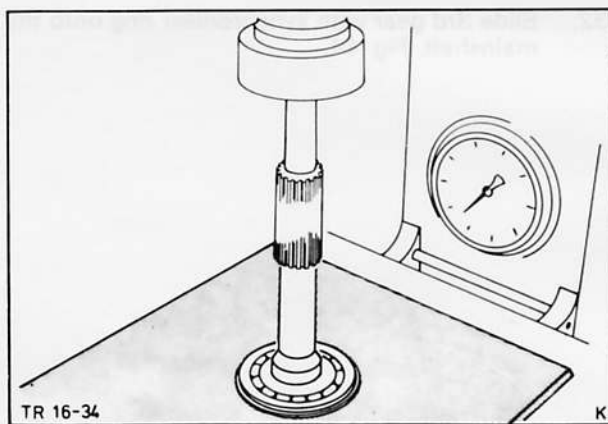

Fig. 47. Press off input shaft bearing
35. Detach circlip from input shaft and press off input shaft bearing, Fig. 47.